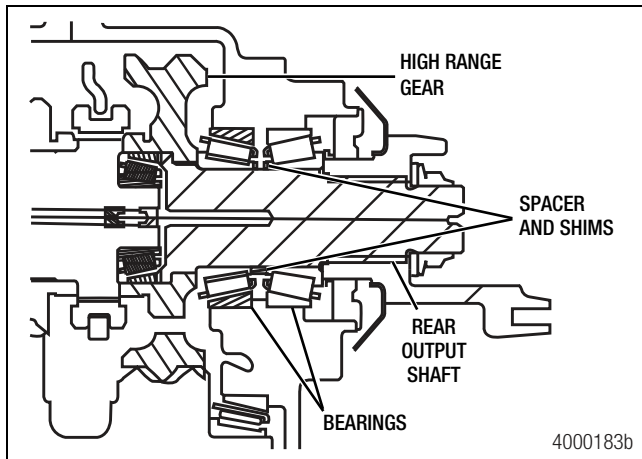

Figure 7.27
1. If the rear output shaft and cover assembly has been disassembled, install the rear output shaft, bearing cones, spacer, and shims, yoke into the rear cover. Temporarily tighten the yoke nut to 700-900 lb-ft (949-1220 Nm). Place the rear cover on the bench to measure bearing end play. Refer to the bearing cup and shim installation procedures in this section. Figure 7.27.